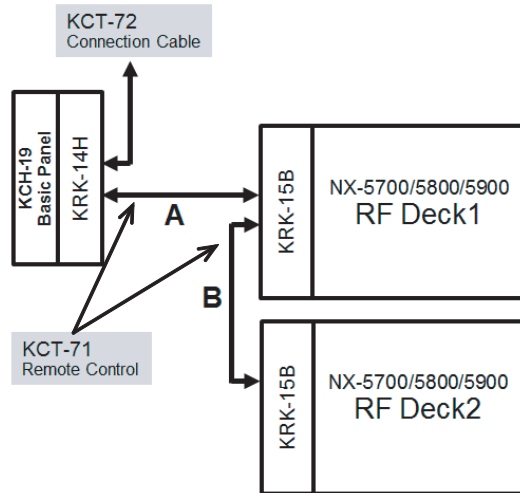

Fig.1
Fig. 1 shows an example of the connection with the basic panel as a control head. Installation work even if the control head is replaced in featured panel KCH-20R is the same.
Step 1: Make KCT-71-A by modifying the KCT-71 shown in Fig. 1.
Step 2: Make KCT-71-B by modifying another KCT-71 shown in Fig. 1.